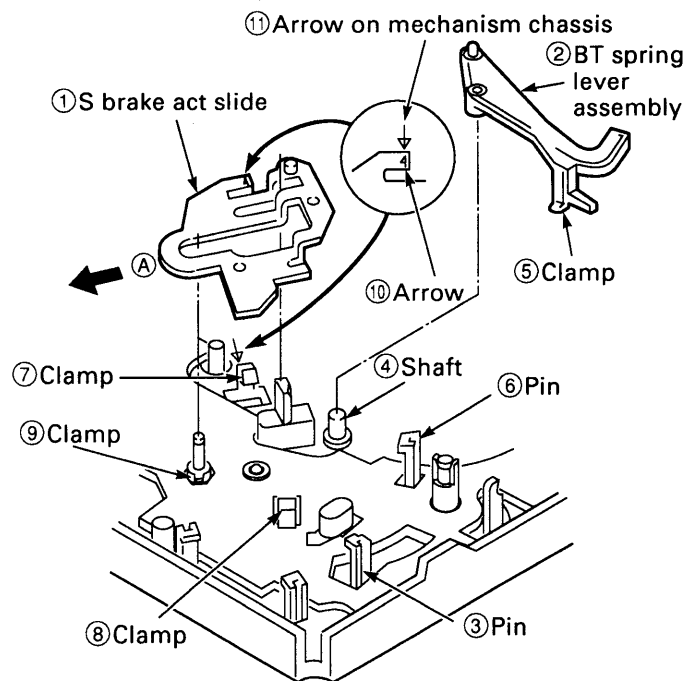
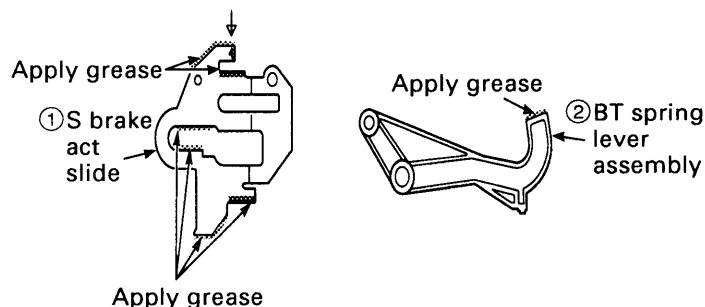

Fig.3-13-3
Fig.3-13-4
### 3-13-3. S BRAKE ACT SLIDE AND BT SPRING LEVER ASSEMBLY (See Figs.3-13-3 and 3-13-4)
1. Apply grease (VHJ-0100) to the shaft ④ shown in Fig. 3-13-3, and to the BT spring lever assembly ② and the S brake act slide ① shown in Fig.3-13-4.
2. After mounting the BT spring lever assembly ② on the Shaft ④, hook the BT spring onto the clamp ⑤ and press it until it touches the pin ⑥.
3. Make sure that the clamps ⑦, ⑧ and ⑨ have snapped into the S brake act slide ①. Align the arrow ⑩ on the S brake act slide ① with the arrow ⑪ on the mechanism chassis.